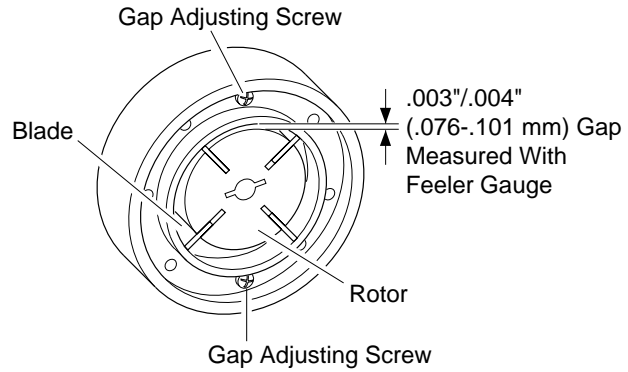

Figure 16 - Gap Adjusting Screw Locations
9. Check gap on rotor. Adjust to .003"/.004" (.076-.101 mm) if needed (see Figure 16).